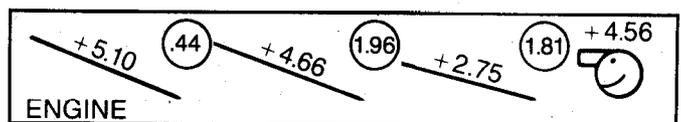

**Figure A4-1-1 — Driveline Vibration — Case Study — Example No. 1**
**NOTE:** The angles shown in Figure A4-1-1 were taken with a very accurate digital protractor and dramatically indicates an ability to work in extremely small figures.
In the example (Figure A4-1-1) note that the working angle between the engine and the first shaft of .44 degrees is well within the driveline rules. The first joint does not present any problems. With a .44-degree working angle and no mating joint, a vibration will never be felt. At the back two U-joints, the intent is to make a canceling pair within one-half degree working angle. As shown in the example, this is very poor; 1.54 degrees minus .18 degrees equals a 1.36-degree difference — clearly beyond the one-half degree rule.